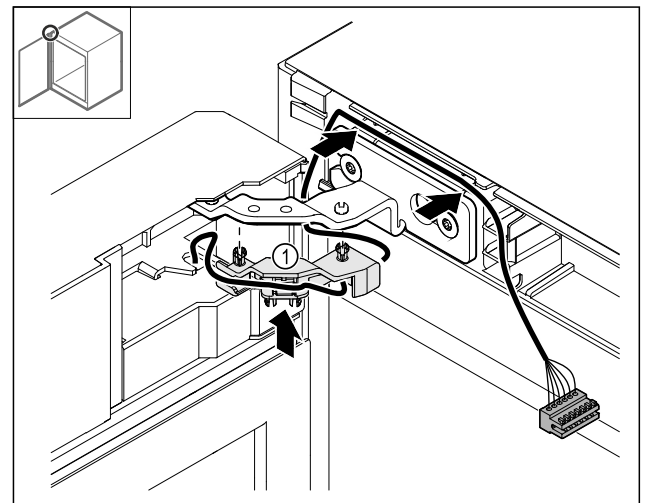

Fig. 48
- Press the cable bracket Fig. 48 (1) into the hinge.